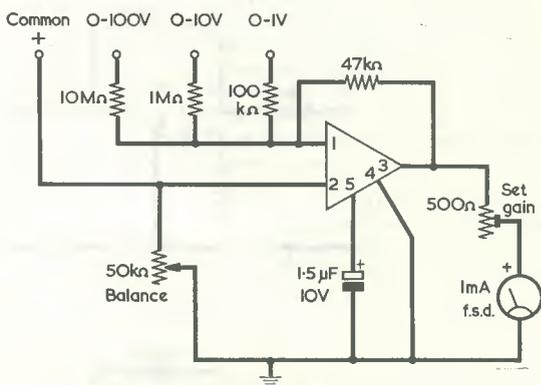

Fig. 8. Differential meter amplifier. This circuit has a sensitivity of 100kΩ per volt
Fig. 8 gives a circuit for a differential meter amplifier. This has a current gain of 100 times, and can be used to increase the sensitivity of a $1mA$ f.s.d. meter from $1k\Omega$ per volt to $100k\Omega$ per volt. On the 0-1V range there is a very small change in balance with the input open or short-circuit (less than $20\mu A$ change on the $1mA$ scale) so this range should be used with the balance control set up under short-circuit conditions. Accuracy is limited by the meter movement rather than by amplifier non-linearity.
offset (i.e. difference from earth potential) which may be sufficient to bias the second amplifier into cut-off or saturation. A solution here is to balance the first amplifier in the manner that was shown in Fig. 8. Thus, the input could be applied to terminal (1) of the first amplifier and a variable balance resistor connected between terminal (2) and earth. The balance resistor is adjusted